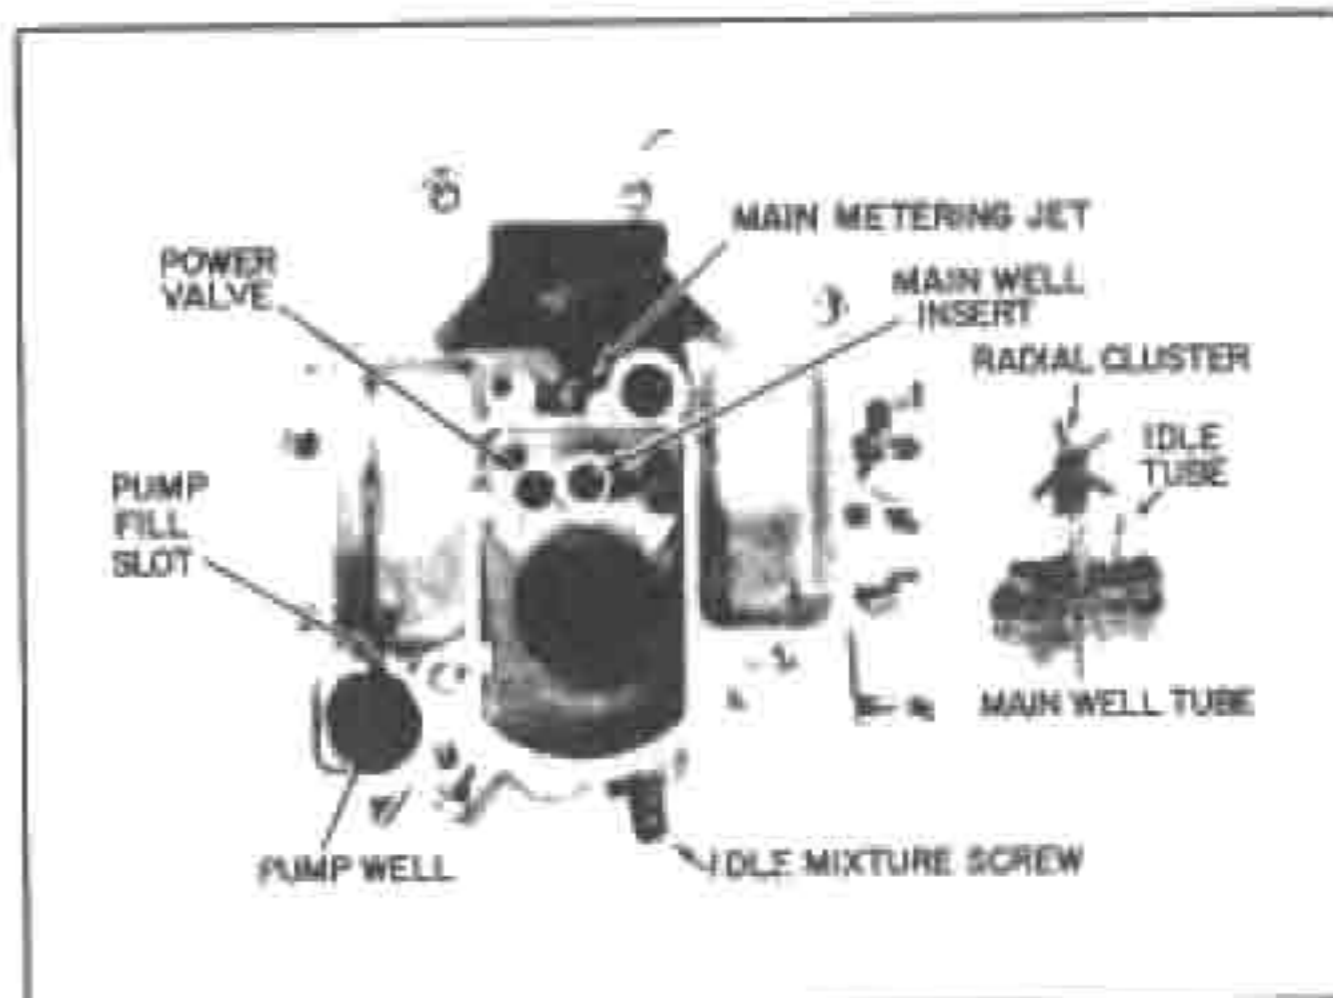

FIGURE 14
4. Remove main well insert tube from main fuel well beneath cluster. (Figure 14)
### CARBURETOR ASSEMBLY FLOAT BOWL AND THROTTLE BODY ASSEMBLY — Fig. 14